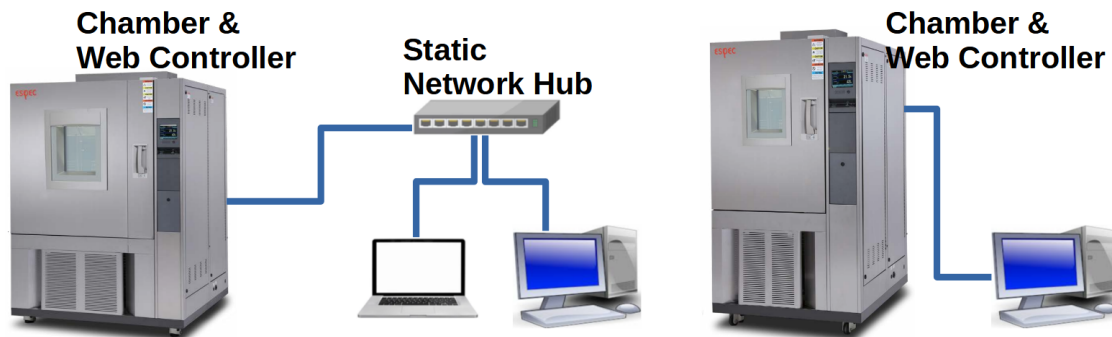

Figure 2.2: Network connection on a static setup
2. Plug the other end of the cable into the PC Ethernet port or a network hub (see Figure 2.2).